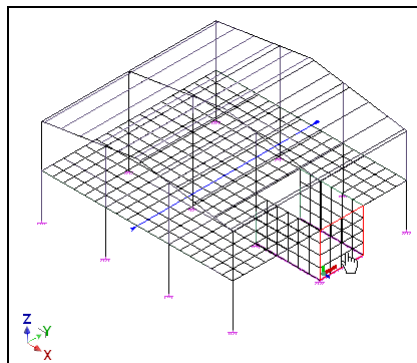

Figure 218: Selecting a wall
1. After unselecting all the elements, select a wall, as in Figure 218.